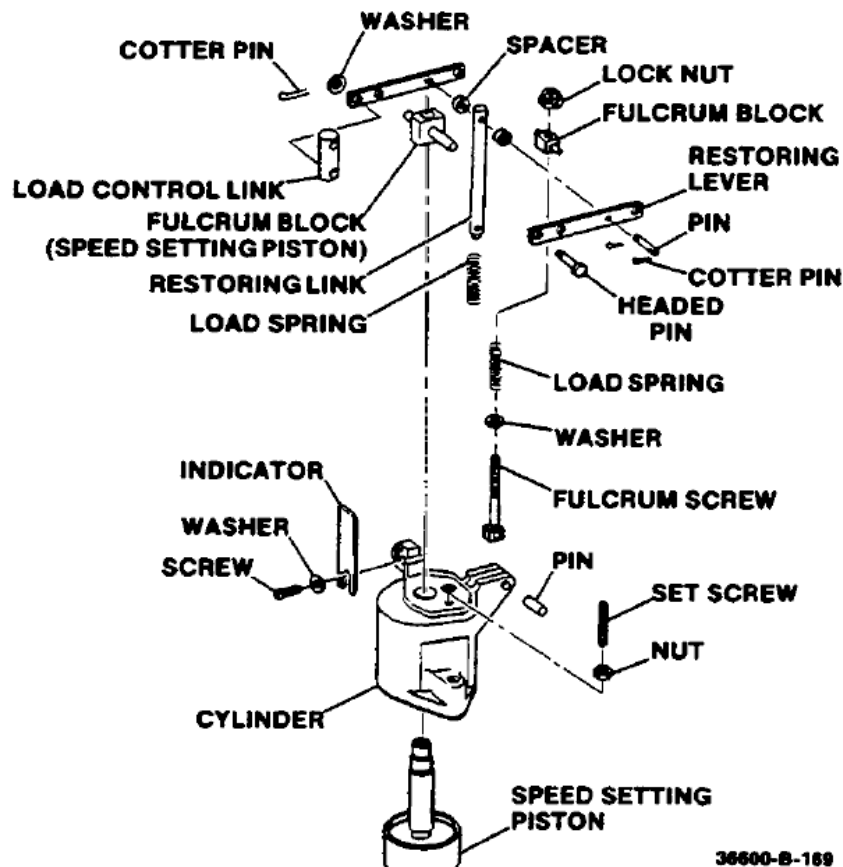

Figure 5-55. Speed Setting Servo
32. Assemble speed-setting servo (Figure 5-55).